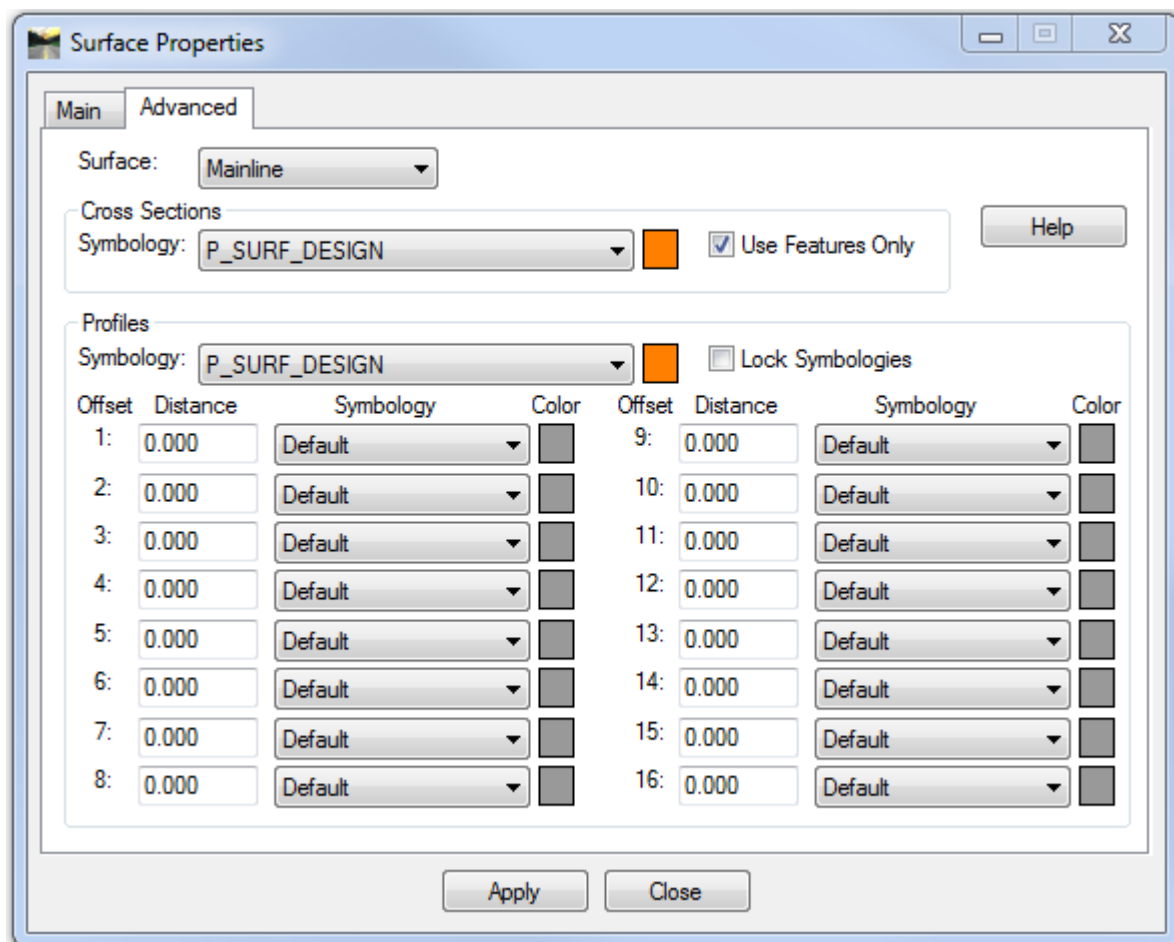

Figure 7-6 InRoads Surface Properties Dialog Box
- E. Also on the **Advanced Tab**, change **Profiles Symbology** to **P_SURF_DESIGN**. Figure 7-6 shows the Surface Properties box.